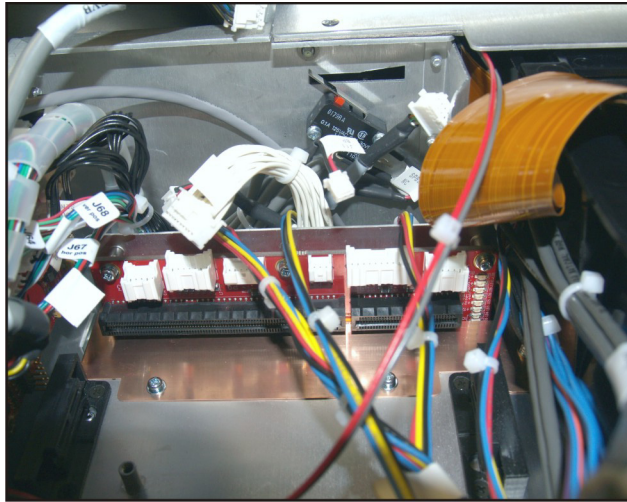

Figure 5-51 Backplane Harnesses
4. Disconnect the six harnesses from the backplane. (**Figure 5-51**)